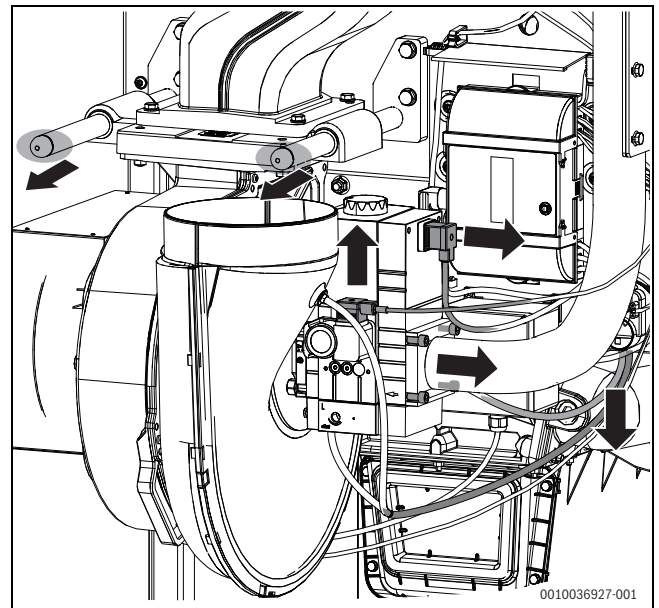

Fig. 52 Removing the burner
- Undo the electrical connections at the air/gas ratio control valve and fan (→Fig. 52, page 41).
- Remove the hoses on the differential pressure sensor (→Fig. 52).
- ▶ Remove the plug screw on the air/gas ratio control valve (→Fig. 52).
- ▶ Remove the hoses on the differential pressure sensor (→Fig. 52).
- ▶ Remove the 4 screws on the flange of the gas pipe (→Fig. 52).
- ▶ Remove the O-ring on the guide pins of the burner sled (→Fig. 52).